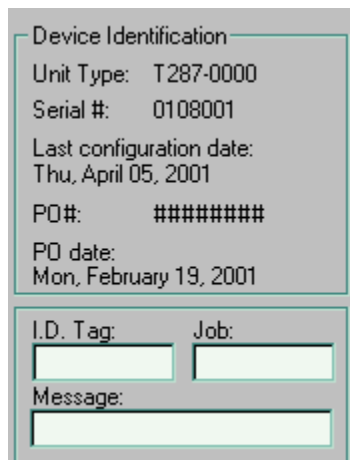

Figure 11.
12. You may now TAB over to the **I.D. Tag:** and type in up to eight alpha -numeric characters for a description to be saved in the transmitter's memory. You may do the same for the **Job:** and **Message:** boxes and type in information in these boxes. Message will store up to sixteen characters, please refer to Figure 11.